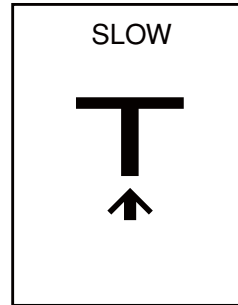

Fig.4
- (1) While taxiing the aircraft using the system, the pilots should maneuver the aircraft at a low speed to the stopping position. In an event when "SLOW" is indicated on the display screen, the pilots should further decelerate the taxiing speed to avoid overshooting. (Fig.4)